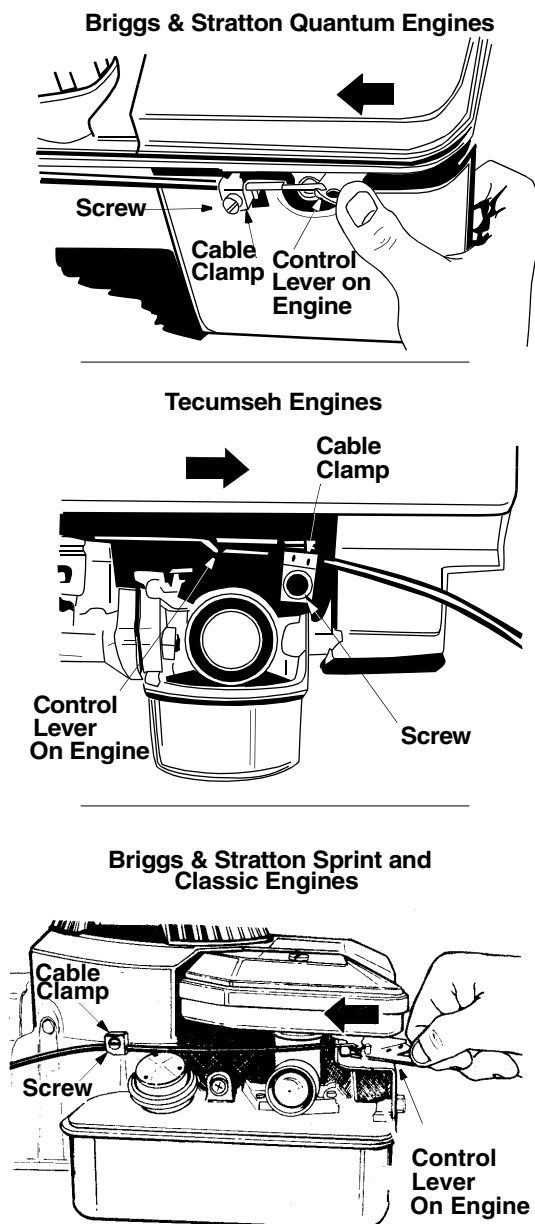

Figure 16
If your lawn mower engine is equipped with a throttle control that needs adjustment or if it has been replaced, proceed as follows. Note that engines with fixed throttle cannot be adjusted. Three types of engines are illustrated in Figure 16. Follow the illustration that is applicable to your mower.
**NOTE:** If you have a Tecumseh engine, simply loosen the screw shown in Figure 16 so the cable will move freely beneath the clamp. It is not necessary to remove the screw and clamp completely.